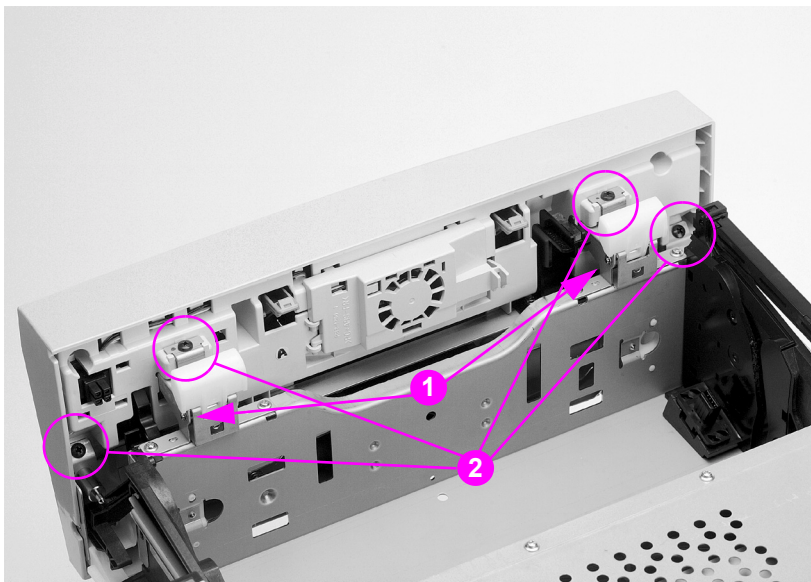

Figure 6-7
- 2 Remove the two screws in the newer version HP Color LaserJet 4500 printer and HP Color LaserJet 4550 printer (callout 1, Figure 6-7) or four screws in the older version HP Color LaserJet 4500 printer (callout 2, Figure 6-7) from the inside of the drawer cover.